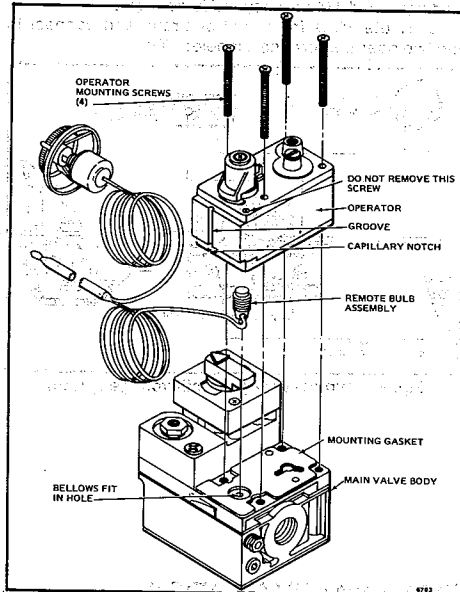

Fig. 10— Mounting the V504 and V524 operator on a standard capacity valve. (Cabinet-mounted dial shown.)
3. Position new gasket over the operator locating pins. See Figs. 10 and 11.